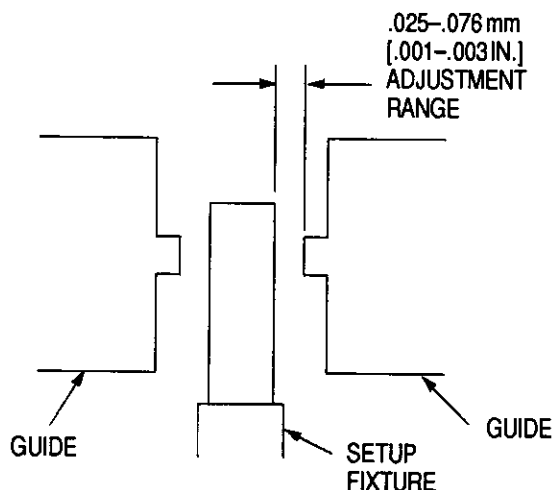

Figure 5
6. Position the inserter assemblies so that there is .025-.076 mm [.001-.003 in.] clearance between the setup fixture and the guides. See Figure 5.